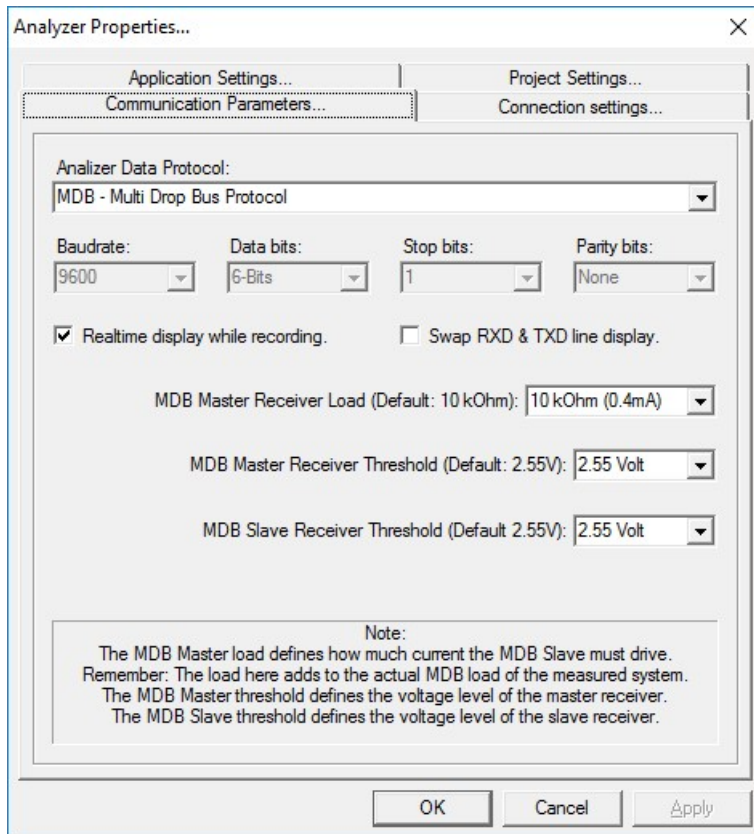

Fig. 4
- Then right click on the shortcut to get the dialog like in Fig. 4